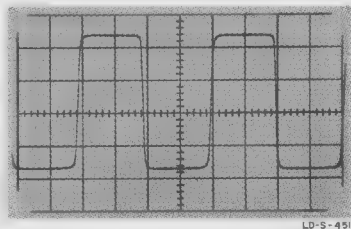

Figure 5-2. Approximate Chopper Waveform
i. Waveform should be similar to that shown in figure 5-2, and should have a peak-to-peak amplitude approximately equal to the deflection found in step g. Signal frequency should be 5/6 line frequency.